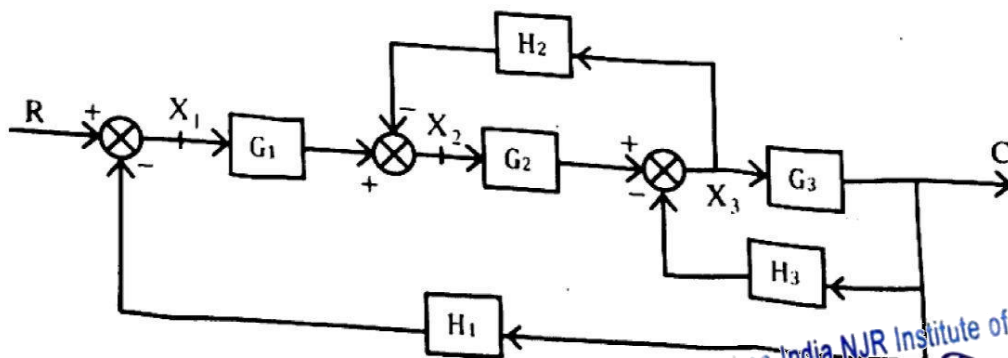

Fig.2
Q.1 For the feedback control system shown in the fig.2 -